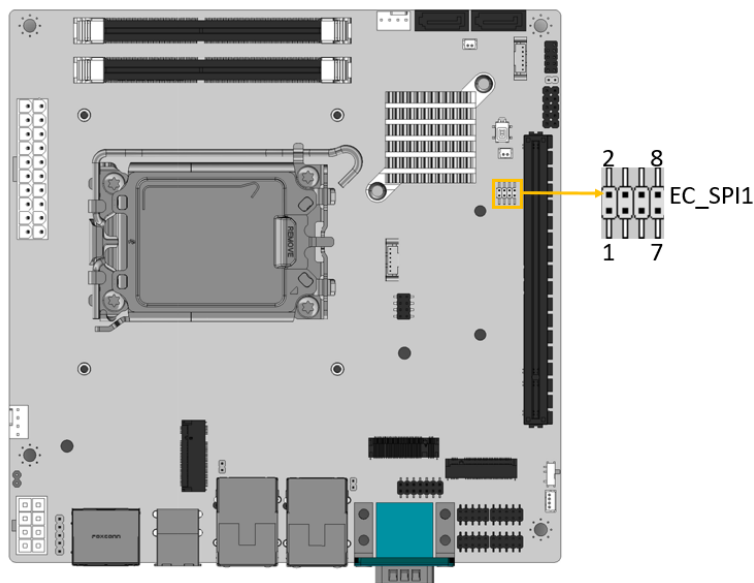

Figure 3-22: SPI EC Flash Connector Location
- CN Location:** See Figure 3-22